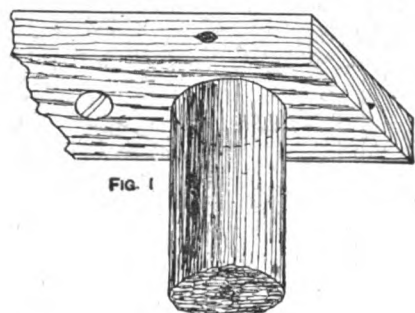

FIG. 1
**Fastening Legs to a Bamboo Table Top.**—Fig. 1 shows a simple method of fastening the legs. Strips of deal or other suitable wood are bored to receive